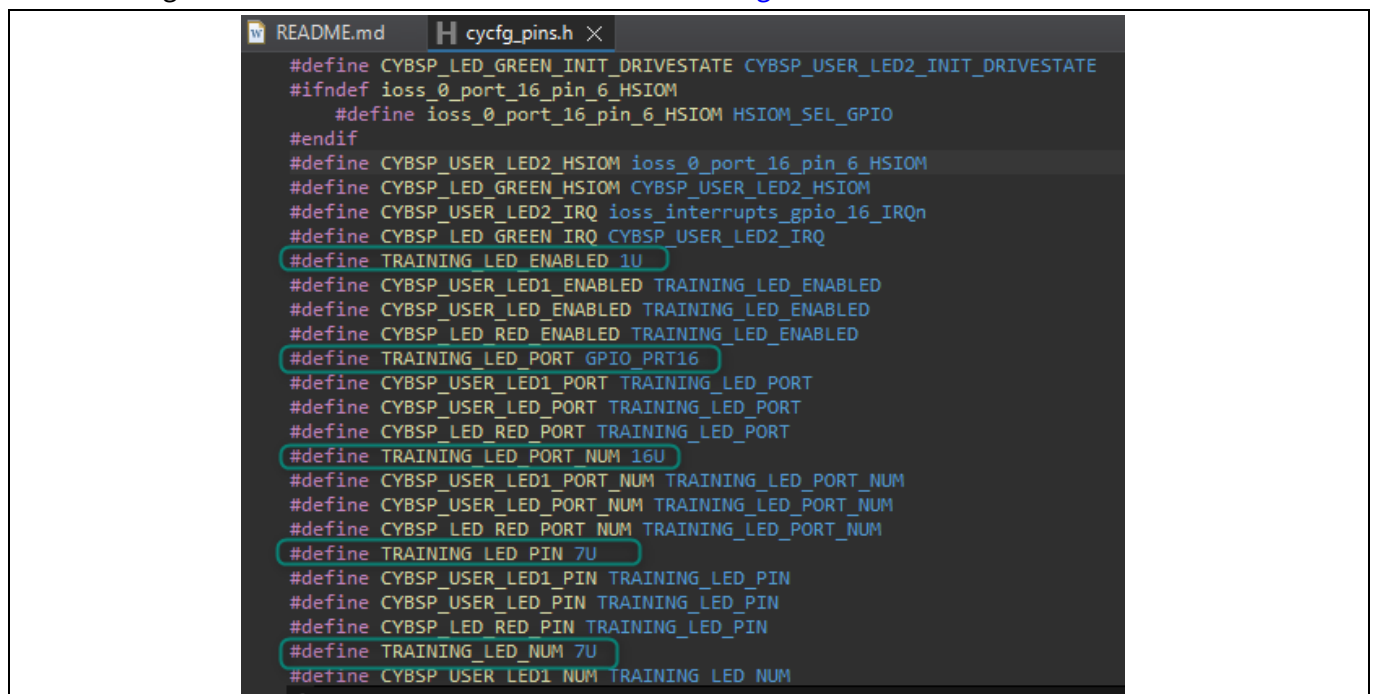

Figure 11 Code generation from Device Configurator
6. **[INFO]** Changes made in the Device Configurator are enabled once you save the file. Try opening the `cycfg_pins.h` file (located at <application-directory>\bsps\TARGET_APP_KIT_PSE84_EVAL_EPC2\config\GeneratedSource\cycfg_pins.h), and you should be able to observe the pin definitions and aliases. The changes we have made are reflected in the file as in Figure 11: